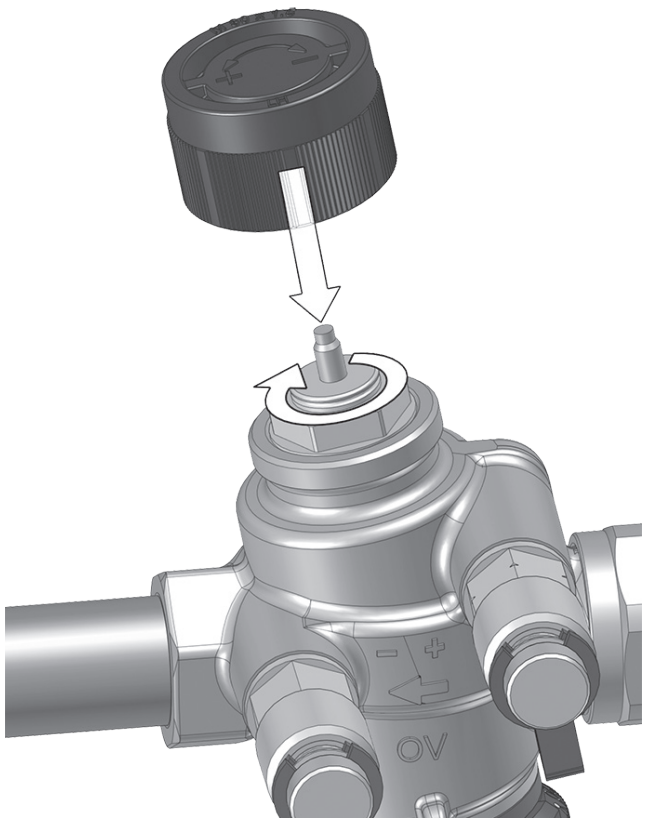

Fig. 8: Shutting off
- Shut off the valve, e.g. with the protection cap (see Fig. 8).
Screw the supplied protection cap onto the M 30 x 1.5 connection thread (see Fig. 8).